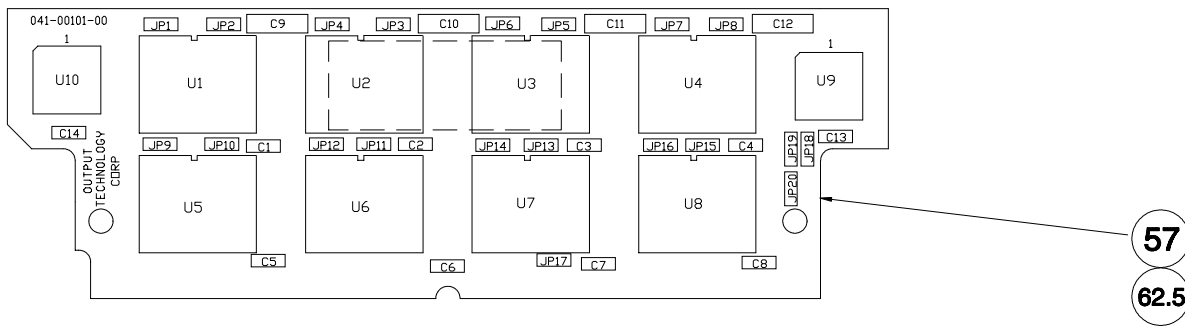

Figure 10. RIP Firmware (DIMM) PCB
** See Figure 10 for firmware.